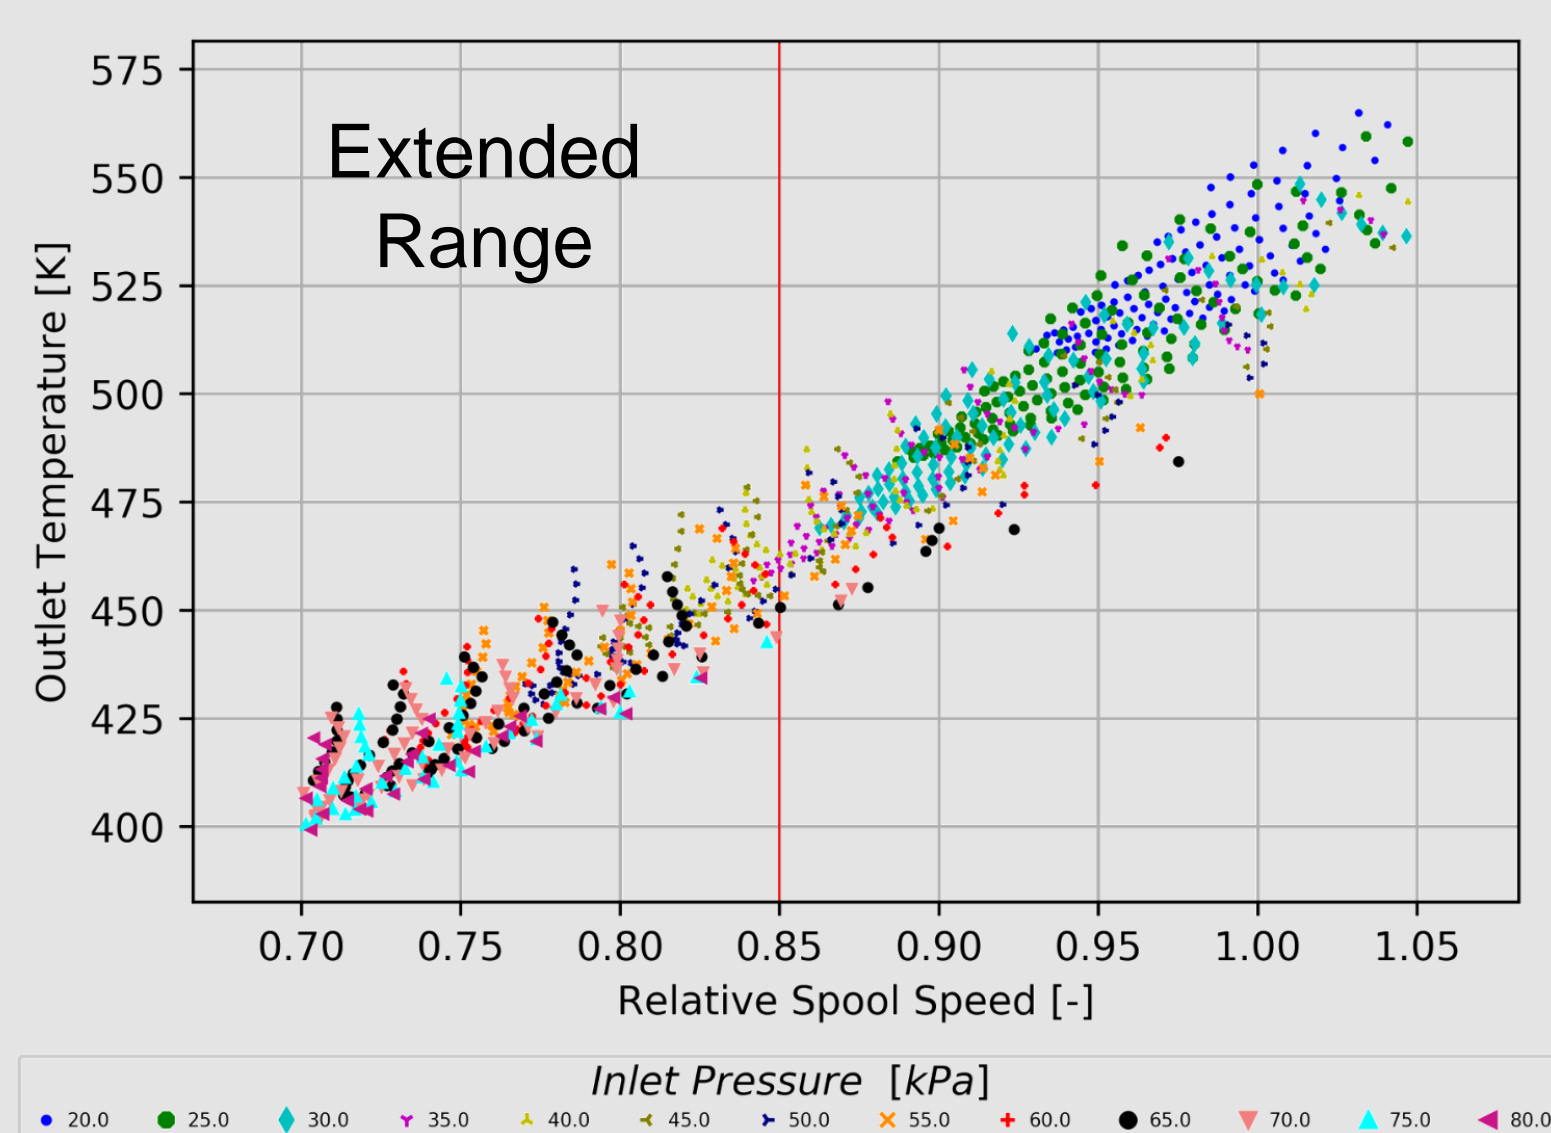

Figure 4: Simulation of the compressor unit with extended spool speed range
- Compressor simulation shows the potential of lower spool speeds to reach needed lower outlet temperatures and turbine pressure ratios (Fig. 4) ⇒ Leads to realized implementation